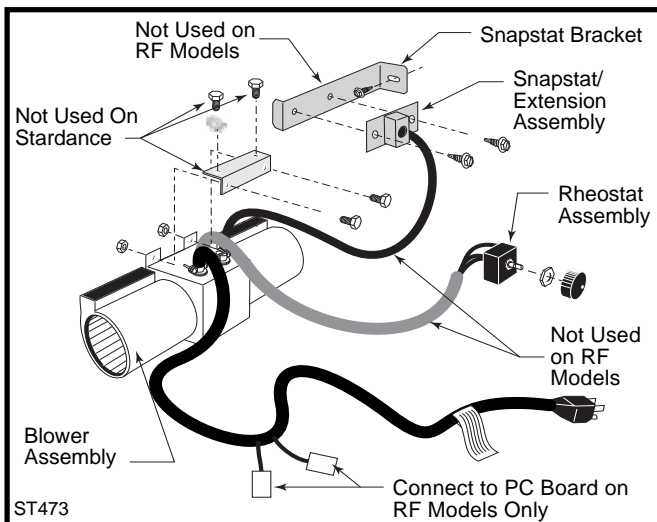

Fig. 18 Fan kit components.
1. The fan kit includes a Blower Assembly and a Rheostat Assembly, connected by a cable. (Fig. 18) The Blower Assembly mounts to the bottom rear of the stove, and the Rheostat mounts to the valve coverplate. The assembly includes a 'snapstat' which automatically turns the fan On (or Off) above (or below) approximately 109°. The Rheostat also provides a range of fan speed settings from Off (which overrides the snapstat function) to High. Unpack and inspect the Blower assembly. Confirm that the fan spins freely.